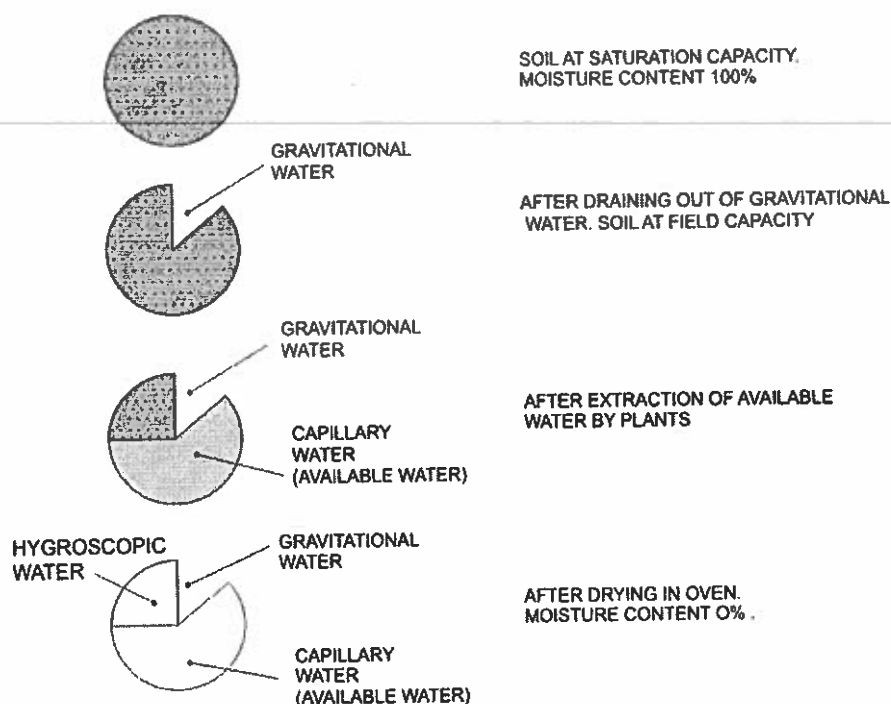

FIGURE 2 . Classification of soil water
It must be noted that the above water contents are expressed as percentage of water held in the soil pores, compared to a fully saturated soil. Figure 2 explains graphically, the various soil constants; the full pie represents the volume of voids in soil.
As shown in Figure 2, the available water for plants is defined as the difference in moisture content of the soil between field capacity and permanent wilting point.
**Field capacity and Permanent wilting point:** Although the pie diagrams in Figure 2 demonstrate the drying up of saturated soil pores, all the soil constants are expressed as a percentage by weight of the moisture available at that point compared to the weight of the dried soil sand sample.